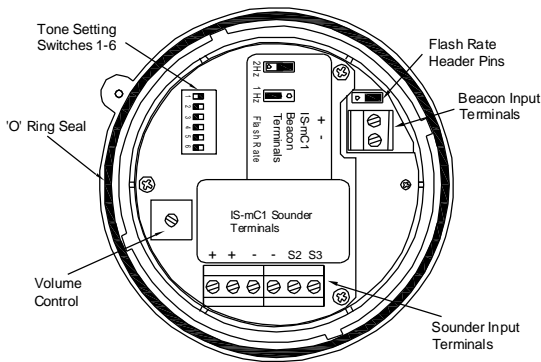

Fig 2 Location of field terminals and controls.
Power is supplied to the sounder section via the sounder input terminals + and - on the sounder PCB (see Fig 2) and the terminals have the following input safety parameters:
Power is supplied to the beacon section via the beacon input terminals + and - on the beacon PCB (see Fig 2) and the terminals have the following input safety parameters:
- Fit the required number of 20mm cable glands or conduit entries into the base and connect the field wiring to the appropriate sounder terminals as shown in section 6 and fig 2 of this manual. The power supply terminals + and - are duplicated so that sounders may
- Select the required sounder output tone by positioning the six switches as shown in Table 1 and Fig 2.
- Check that the 'O' ring seal is correctly located on the sounder/beacon section (see Fig. 2) and insert the sounder/beacon section into the base. Push it fully home and turn it clockwise to align the mouldings before tightening the security screw.
Tone Selection – To select the required first stage tone set the tone switches 1 to 6 (see Fig 2) to the tone setting shown in the table below. The table also shows which 2nd and 3rd stage tones are available for use with the selected first stage tone if more than one tone output stage is required.